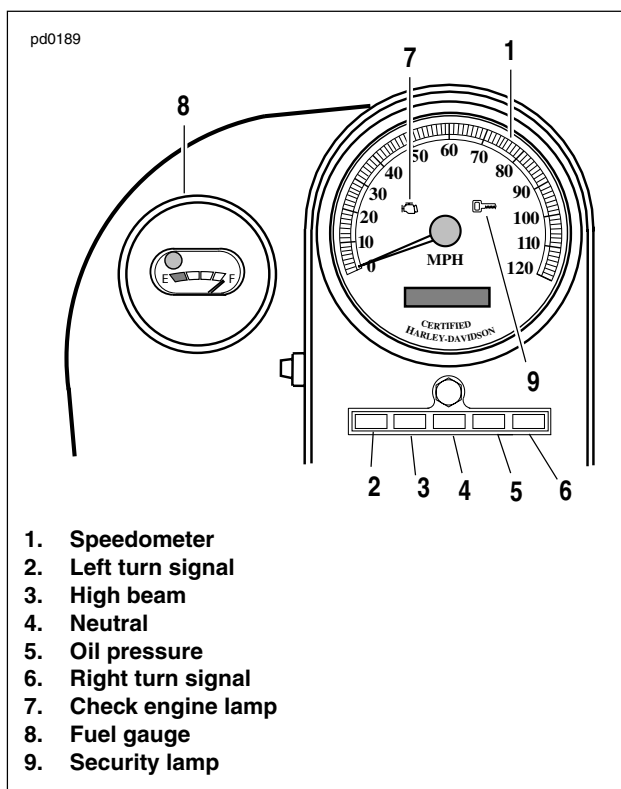

Figure 4-1. Indicator Lamps
- See Figure 4-1. Turn ignition switch to "IGNITION" position, and check that oil pressure indicator lamp turns on (before engine is started). Speedometer needle will "vibrate" and speedometer amber backlight will be visible. The Check Engine indicator will illuminate for about four seconds and then go off. If vehicle is equipped with optional Security System (TSSM), a key icon (9) (security lamp) will illuminate for about four seconds and then go off.